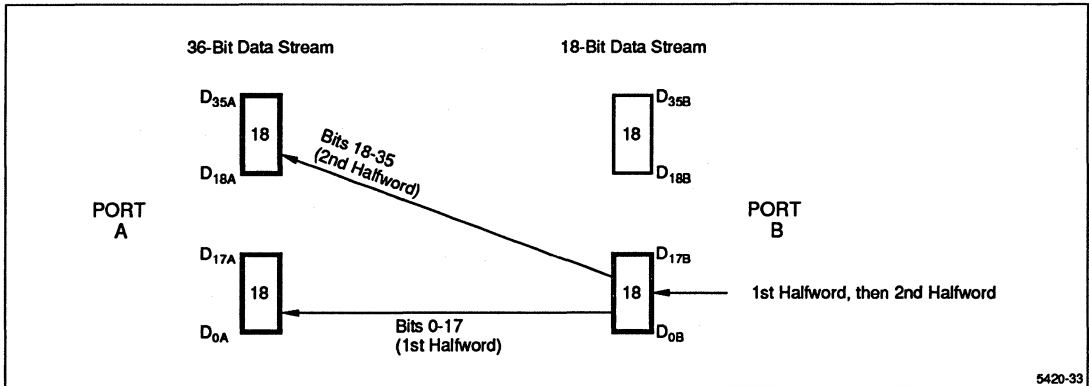

Figure 7a. 18-to-36 Defunneling Through FIFO #2
2. The defunneling process does not change the ordering of bits within a byte. Halfwords (Figure 7a) or bytes (Figure 7b) are transferred in parallel form from Port B to Port A.